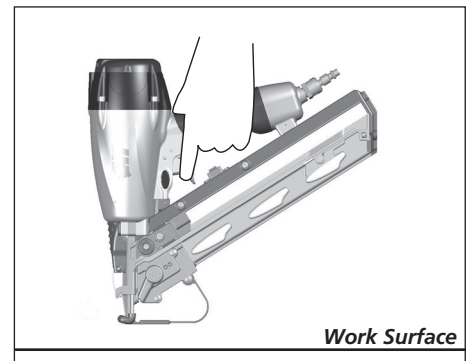

Figure 17
6. Remove nailer from work surface. The WCE must return to its original down position. Pull the trigger (See Figure 17). The nailer **MUST NOT OPERATE**. Do not use the tool if it operates while lifted from the work surface. Personal injury may result.